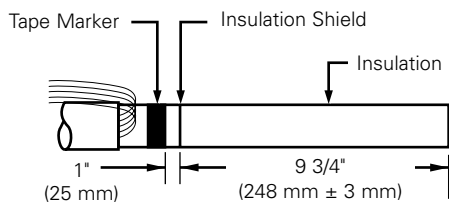

Figure 16. Line illustration of cable stripback.
- Remove insulation shield length 9 3/4" (248 mm) from end of cable. Refer to Figure 16.
- Measure 1" (25 mm) from end of insulation shield. Refer to Figure 16.